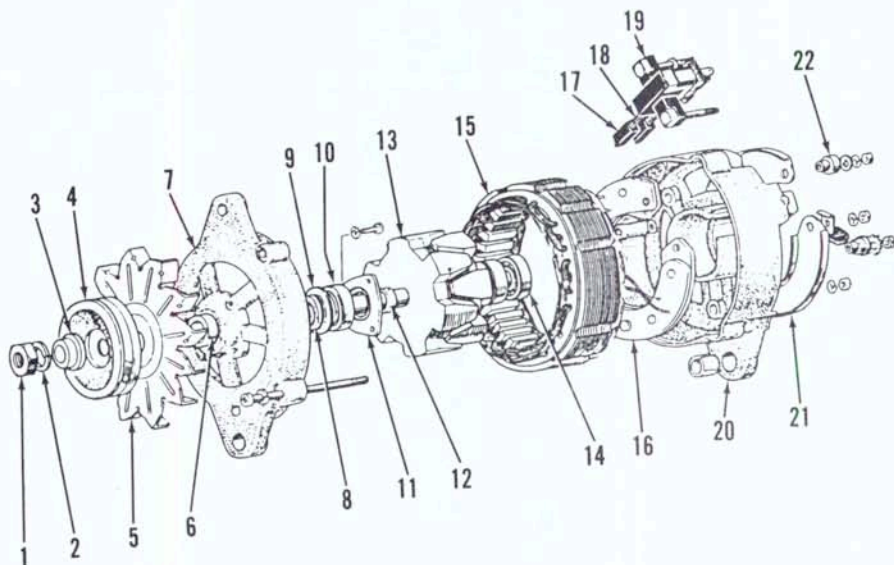

Fig. 74—Exploded view of typical alternator used on all models.
61. OVERHAUL. Refer to Fig. 74 for an exploded view of typical alternator unit. To disassemble alternator, first scribe match marks across frame halves